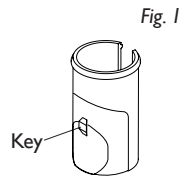

Fig. 1
- On bikes produced after October 2002 a sleeve with an upstanding key (fig. 1) should be used, bikes produced before this date should use a sleeve without the upstanding key, when ordering a sleeve both variants are supplied.